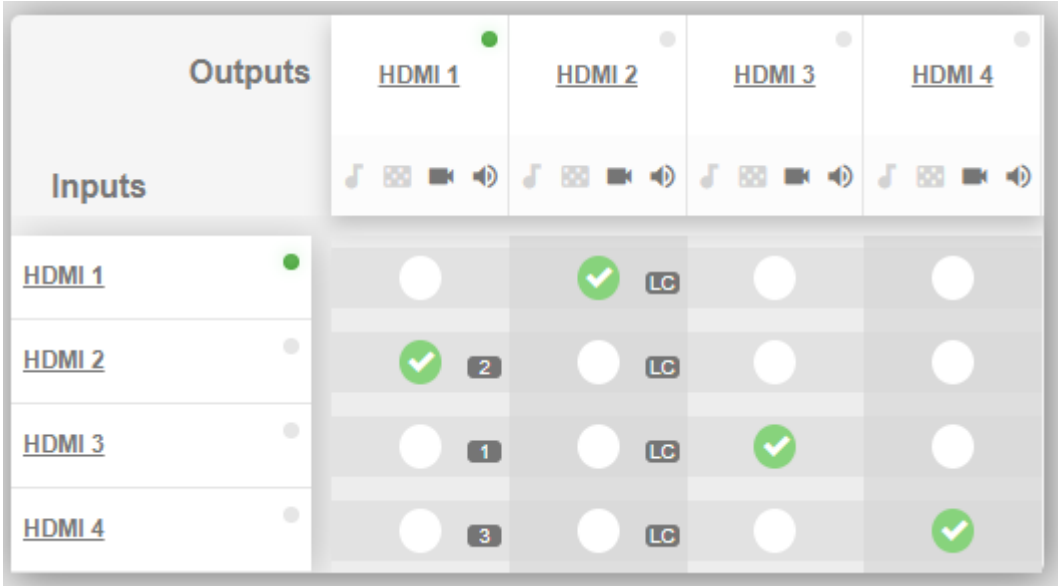

Figure 22: Auto Switching Mode – Priorities List
- The input priority-order appears. under the output (see HDMI 1 Figure 22).
- Last Connected (**LC**) appears under output (see HDMI 2 in Figure 22).